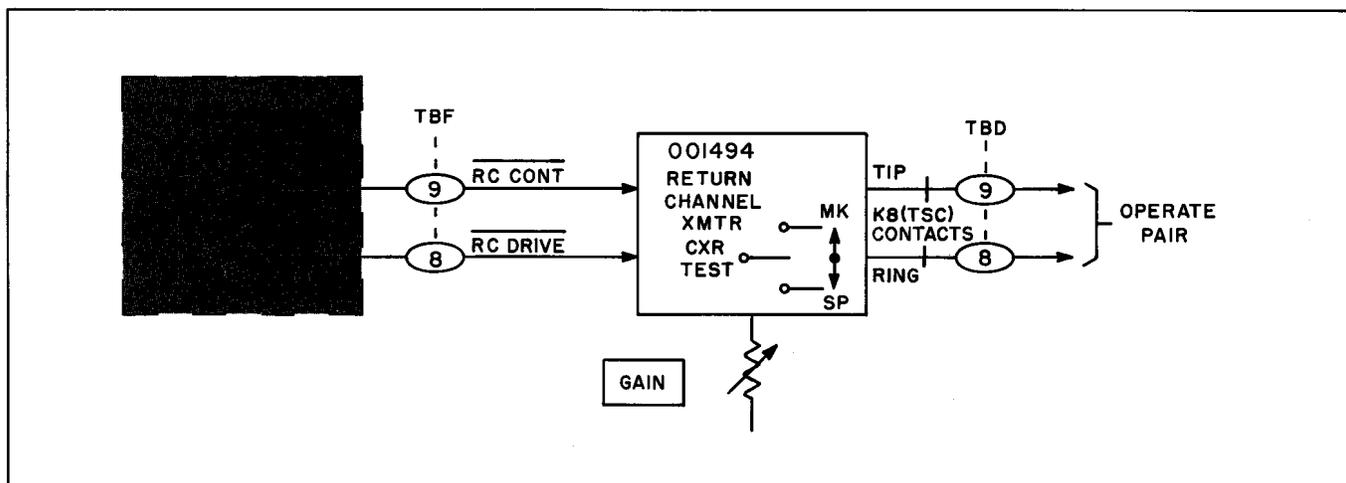

Figure 24 - Block Diagram of Components Comprising Remote Station's Optional Return Channel
3.16 OPTIONAL RETURN CHANNEL - The optional 001494 Return Channel Transmitter is used in tone signaling applications to send "supervision" information to the master station. As shown in Figure 24, terminals 8 and 9 of TBF must be connected into a switching network that provides a ground to the transmitter's RC CONT and RC DRIVE inputs. Ground applied to TBF-9 causes the transmitter to turn on and generate its Mark frequency (2500 Hz); ground applied to TBF-8 switches the frequency to Space (2430 Hz). To troubleshoot the transmitter, follow this procedure: